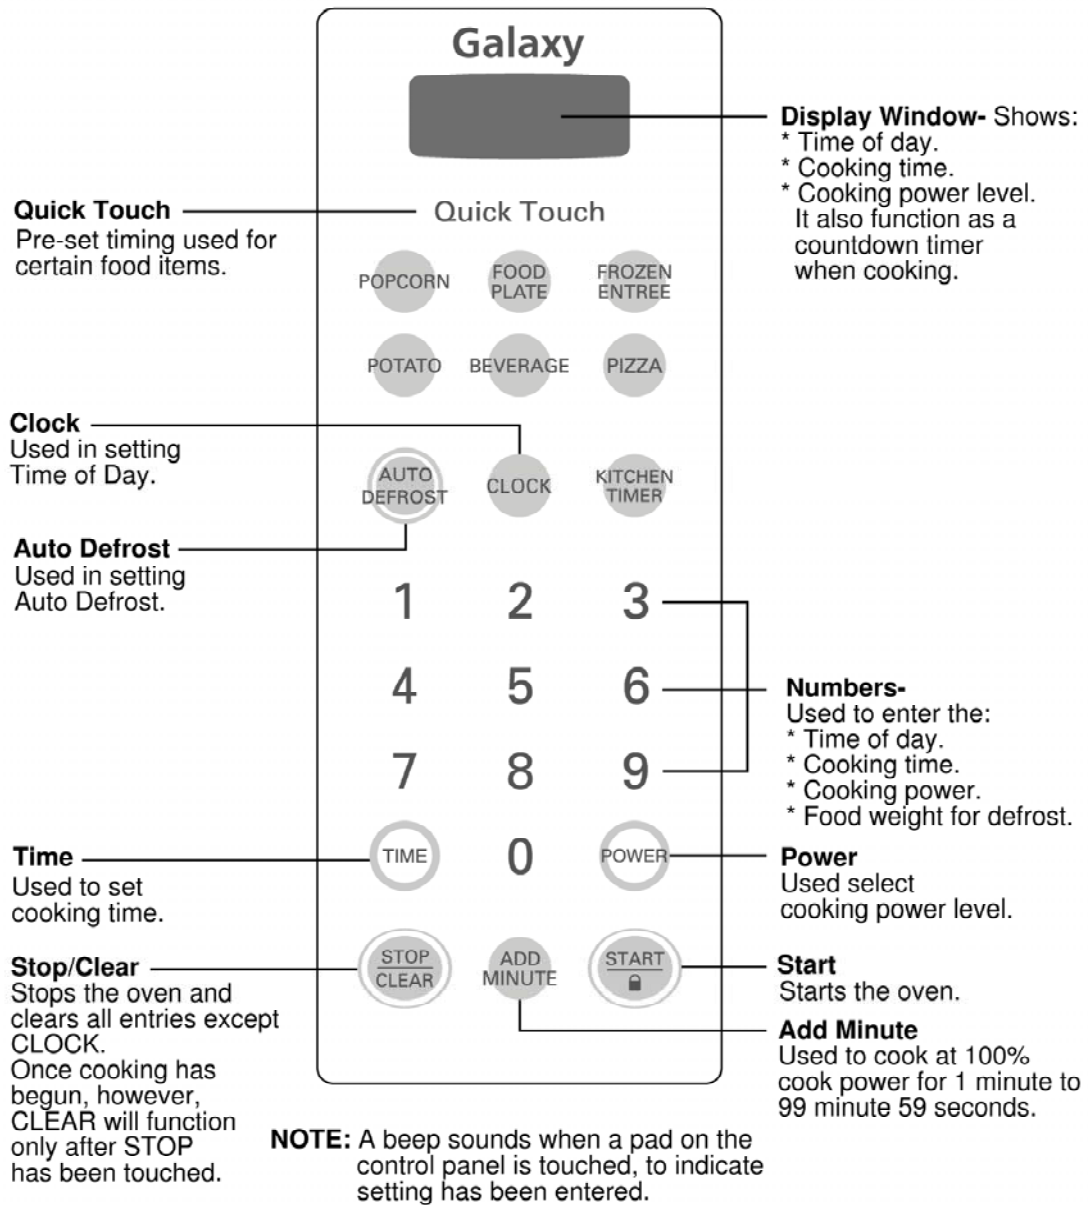

Figure 5
B. PANEL INSTRUCTIONS (Figure 5)
Numbers and letters explained in Figure 5 are shown in the display window (Vacuum Fluorescent Tube).